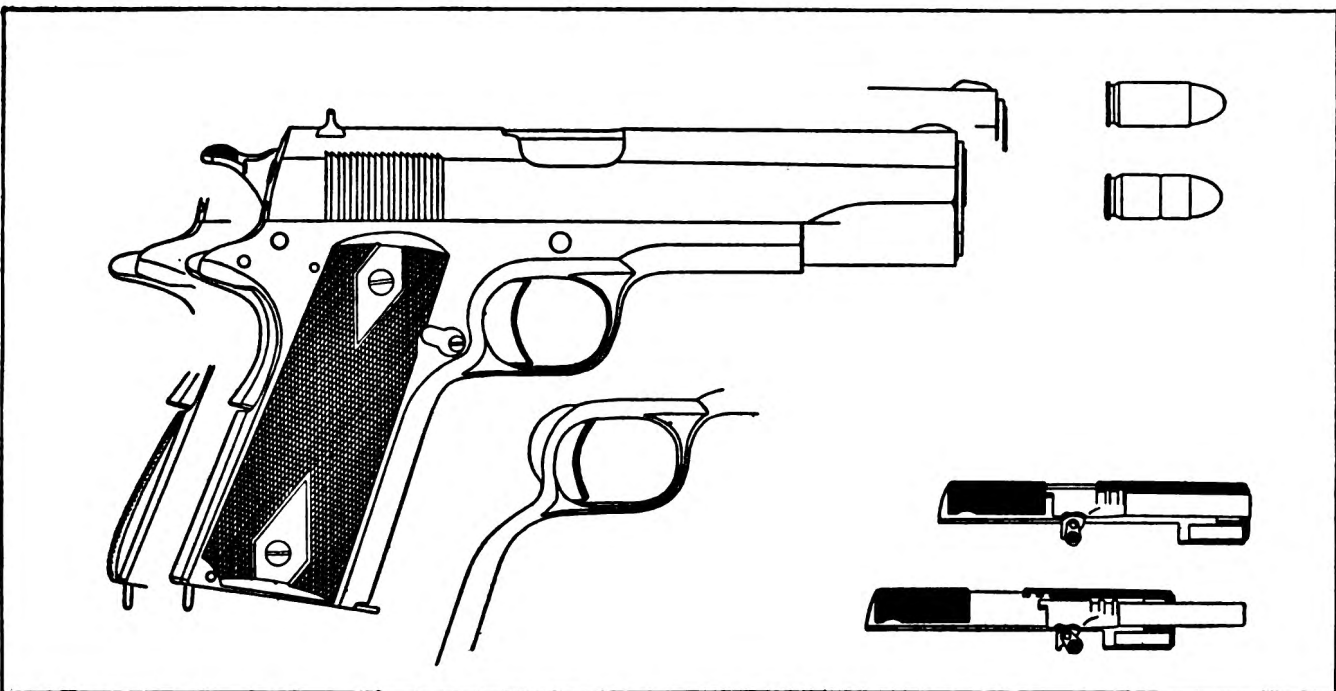

FIGURE 37. THE .45 AUTOMATIC COLT PISTOL
**Short Recoil-Operated Action.** With this type of mechanism the breech bolt is locked tightly to the barrel, solidly supporting the head of the cartridge at the beginning of the operation. The barrel and bolt are arranged to slide backward together on firing, through a tube which encircles the barrel and a grooved well in the receiver, or along a track on the forearm and through a well in the receiver. Thus when the rifle is fired the barrel and bolt slide straight to the rear actuated by the recoil, during which movement the counter recoil spring is compressed. When the barrel has completed a certain short travel to the rear, and the bullet has left the muzzle, the barrel is stopped and at this point the breech bolt is unlocked from the barrel by cams in the receiver. In some designs a counter recoil spring is provided for the barrel and this spring then pushes it forward again to its normal position. But momentum and residual pressure continue to carry the bolt further back to the end of its travel in the receiver until it reaches the stop or buffer. The compressed counter recoil spring then moves the bolt forward, carrying the top cartridge from the magazine into the chamber, and the bolt locks itself to the barrel, ready to fire again. Examples of this mechanism are the .45 caliber Colt automatic pistol (see Figure 37)—a Browning patent—the Johnson rifles and L.M.Gs and the Luger, the P-38 Walther, and Mauser pistols. The Johnson semi-automatic rifle, designed by Captain Melvin M. Johnson, Jr. is probably the most efficient utilization of this system to date when it is to handle high power rifle cartridges.